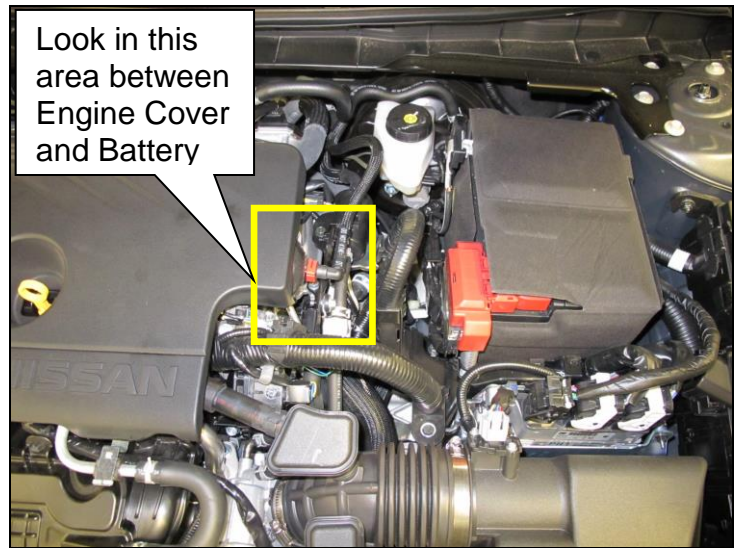

Figure 3
3. Locate Fuel Feed Tube Clip Area (Figure 3).